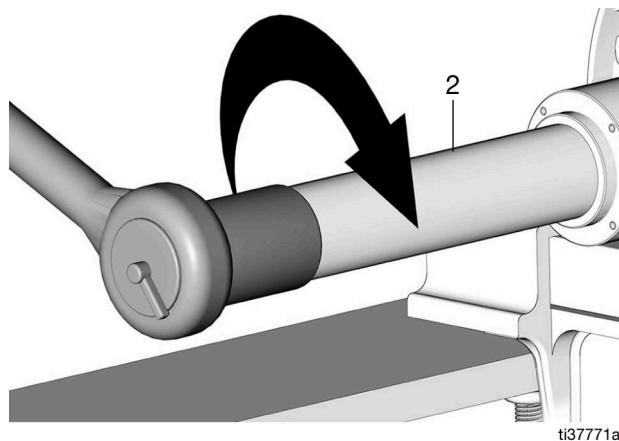

FIG. 30
- Replace the seal retainer (6) and hand-tighten (FIG. 30).
- Apply non-metallic, anti-seize lubricant to the male threads of the pump cylinder (2) then start reassembly by hand until tight, then finish using a 1-13/16 in. socket (torque 235 - 265 ft-lb/318.6 - 359.3 N•m).